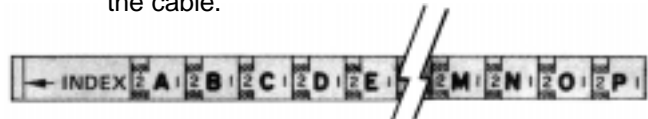

FIGURE 4 - CABLE Mea-SURE™ TAPE
3.04 Use the CABLE Mea-SURE™ Tape to determine: (Figure 4)